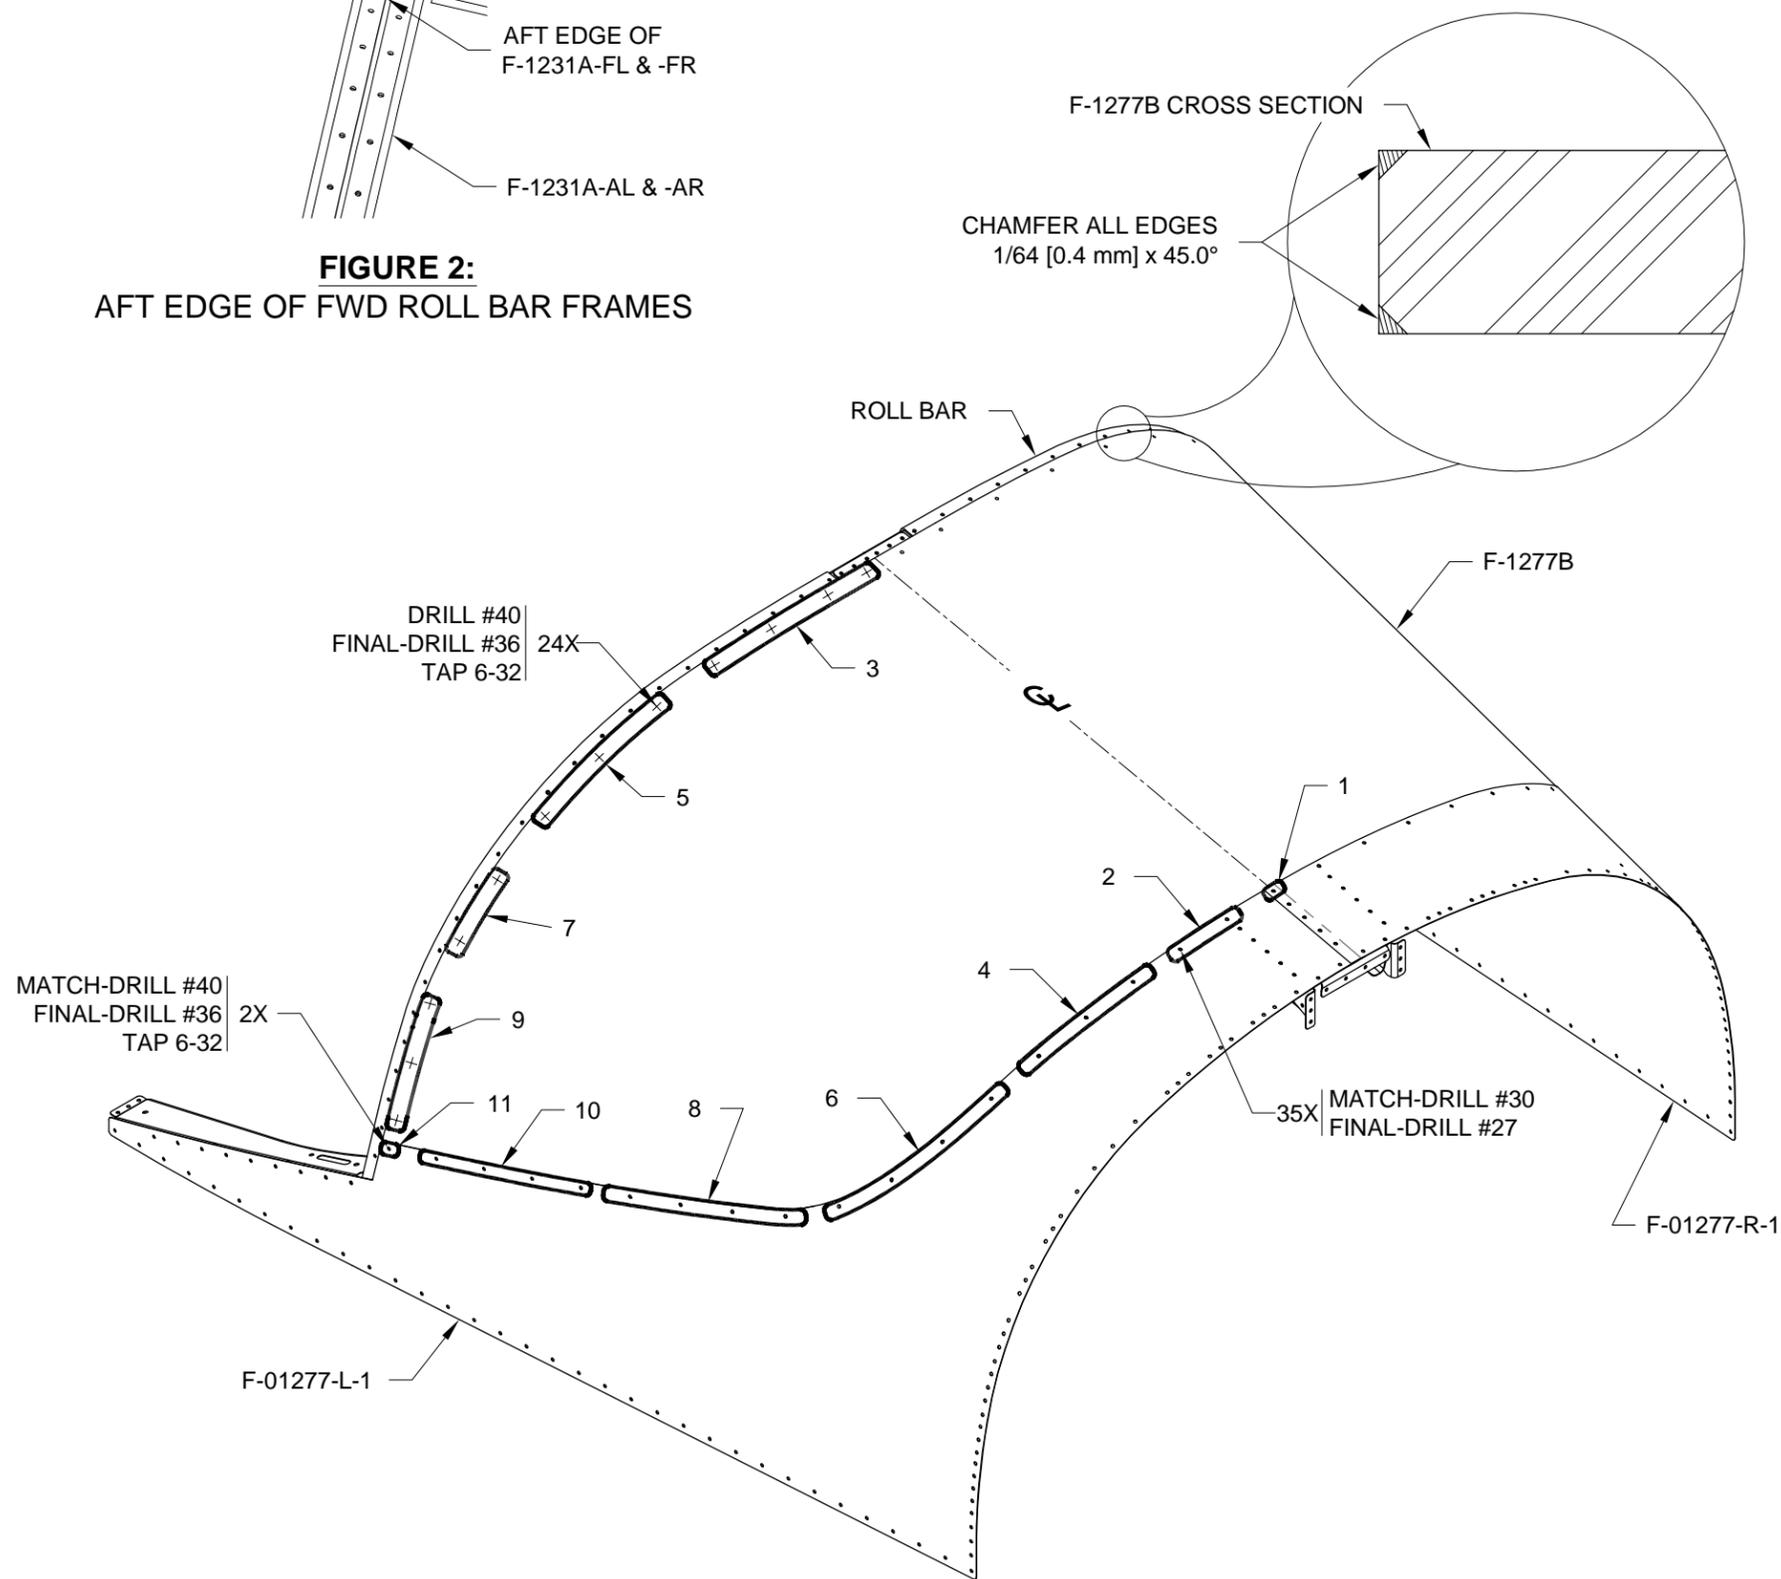

FIGURE 1: DRILLING THE WINDOW
Step 2: Apply a length of tape (masking or electrical) to the outside of the turtle deck skins with the edge of the tape aligned with the edge of the skins. Curl the tape up locally for access to each screw head; see Detail A in Figure 1.
Step 3: Apply a length of tape to the inside of the turtle deck skins with the edge of the tape aligned with the aft edge of the window; see Detail B in Figure 1.